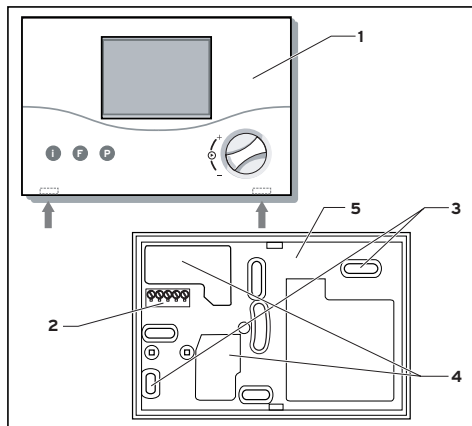

Fig 9.1 Mounting the controller
- Pull the weather compensator (1) out of the mounting box (5).
- Drill two holes (3) of 6 mm diameter (as shown in fig. 9.1) and put in the supplied wall plugs.
- Thread the connection cable through the duct (4).